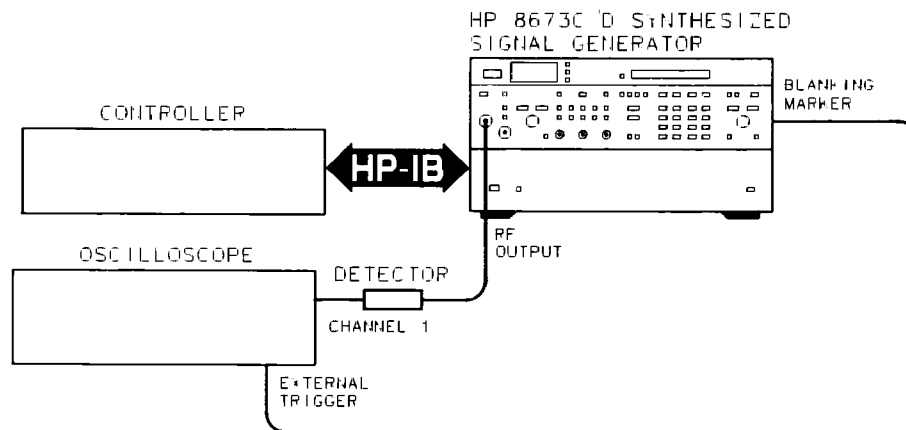

Figure 4-23. Output Level Switching Time Test Setup
1. Set up the equipment as shown in Figure 4-23. The external trigger input of the oscilloscope is connected to the Signal Generator's rear panel Blanking / Marker output. This signal will trigger the oscilloscope at the start of a frequency change when any sweep mode is selected. By making a simultaneous frequency and level change, the oscilloscope can be triggered to view the level switching process.